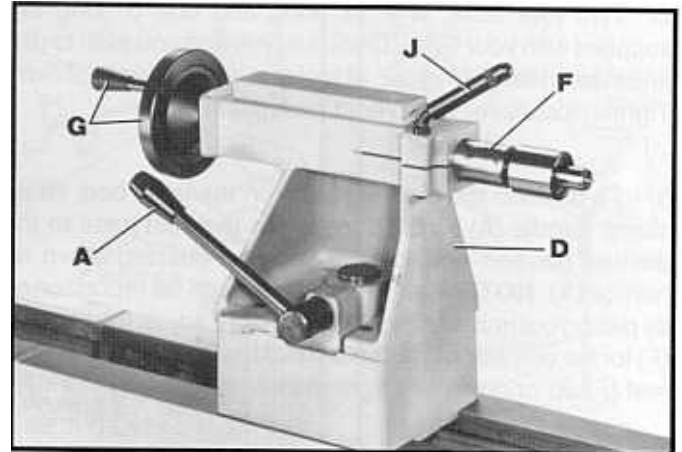

Fig. 26
4. The tailstock (D) Fig. 26, can be moved lengthwise along the lathe bed by loosening locking lever (A), sliding tailstock (D) to the desired position on the bed, and tightening lever (A).
5. The tailstock spindle (F) Fig. 26, is moved in or out of the tailstock body by loosening locking lever (J) and turning handwheel (G). Total movement of the tailstock spindle (F) is three inches. The tailstock spindle is hollow the complete length of the tailstock enabling you to bore holes through turnings using an auger.